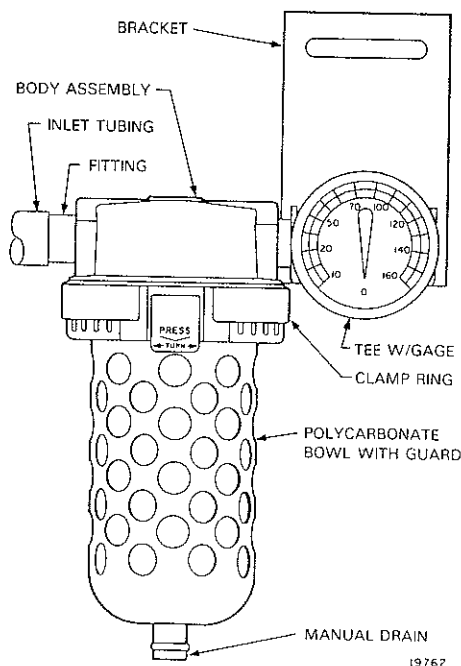

Fig. 6. Filter Station Assembly 14004205-001 Installation Detail.
1. Turn off air compressor. Open manual drain on bottom of bowl (Fig. 6).